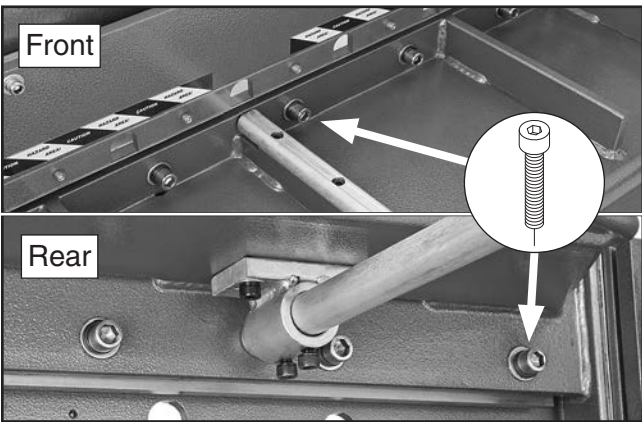

Figure 27. Blade cap screws.
1. Have another person support the blade so it does not fall as you remove the nine cap screws that secure it (see **Figure 27**).